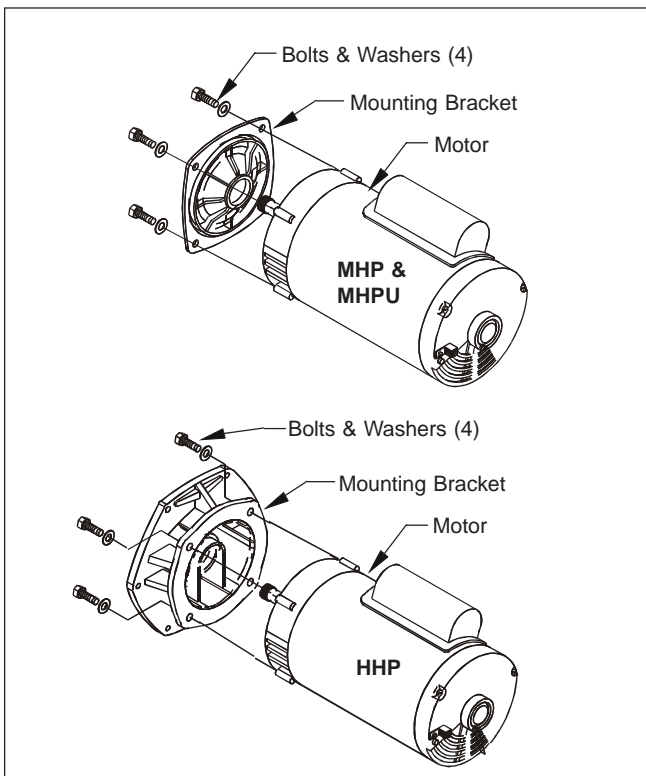

Figure 4. Mounting Bracket Assembly
10. Remove the four (4) bolts holding the mounting bracket to the motor. Before removing the bracket, note the alignment of the mounting bracket to the motor (See Fig. 4).
1. Replace the mounting bracket on the motor by first, aligning the bracket with the seal splash guard open to the ground, and the mounting bracket part number at the top. Install and tighten (max. 15 ft-lbs) the four (4) bolts (See Fig. 4).